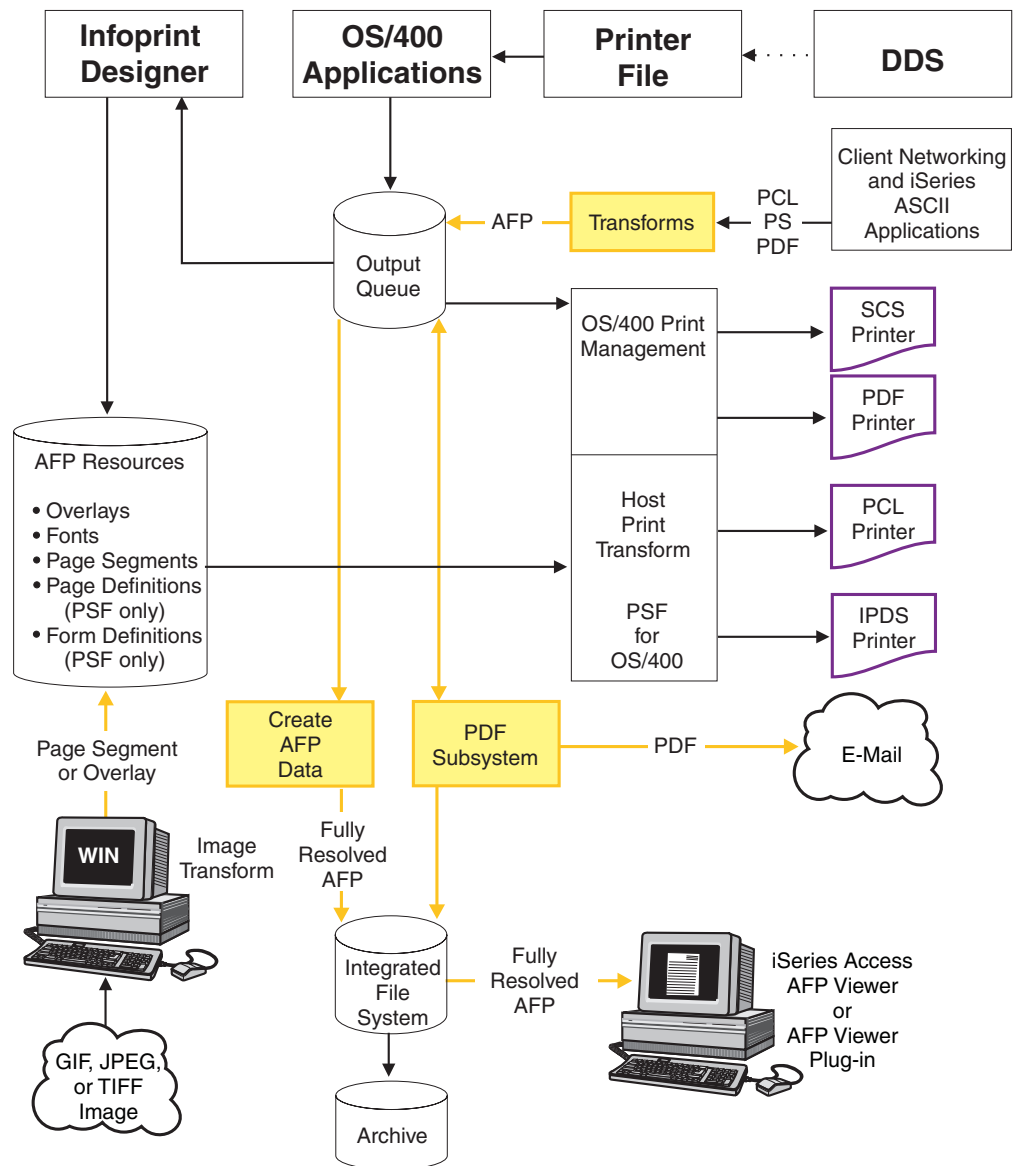

Figure 2. iSeries Output Management with Infoprint Server
Infoprint Server opens up this print architecture. Figure 2 on page 5 shows the functional elements that Infoprint Server adds to the picture. The Infoprint Server components are shaded. The general focus is in two major areas: (1) projecting OS/400 output to the network, and (2) incorporating the network into the OS/400 print functions.